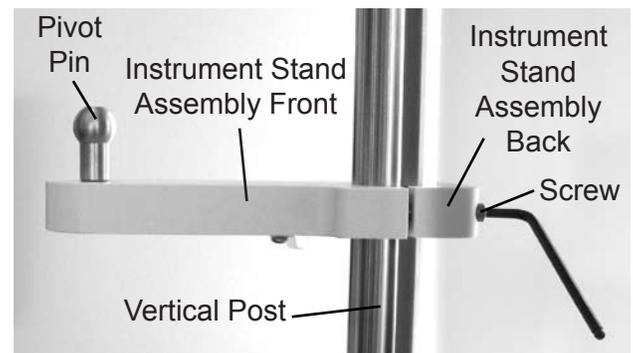

Figure IS-11 Instrument Stand Assembly
2. Place the Front of the Instrument Stand Assembly on the front side of the Vertical Post, and place the Back of the Instrument Stand Assembly behind it. Refer to Figure IS-11.